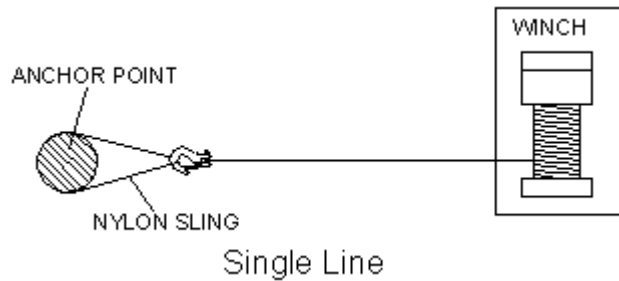

Fig.8
1. The most commonly used rigging. A nylon sling is used to protect the tree when it is used as an anchor, and the wire rope is attached to use the sling. (see fig. 8)